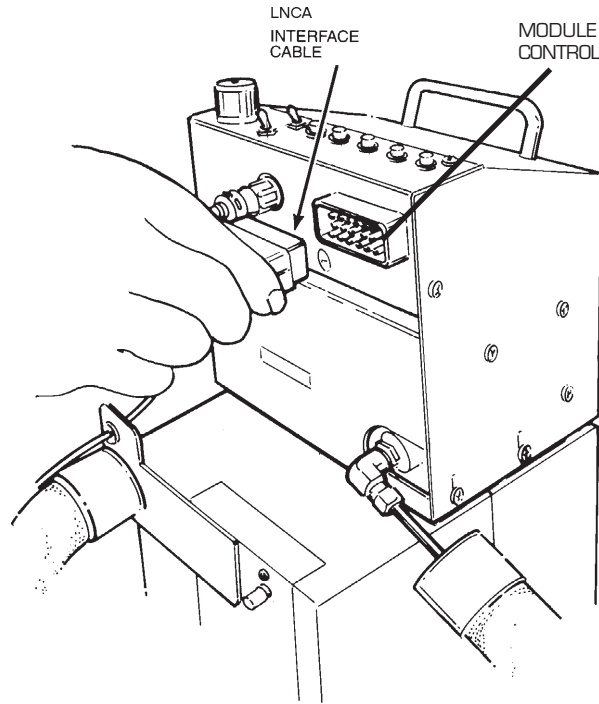

Figure 2.10
5. Connect the LNCA/DSC interface cable from the MODULE CONTROL connector on the LNCA Adapter (Figure 2.10) to the LNCA connector on the back of the DSC module. Tighten the thumbscrews at the MODULE CONTROL connector on the LNCA Adapter.